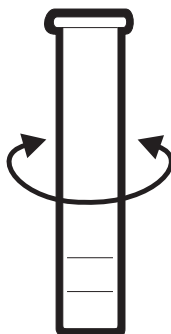

Figure 2. Swirling the Sample
7.1. Using your index finger Push out the phenol red tablet from the foil and allow it to fall into the tube. Install the cap and swirl tube for 10 seconds to mix contents. (See Figure 2.)